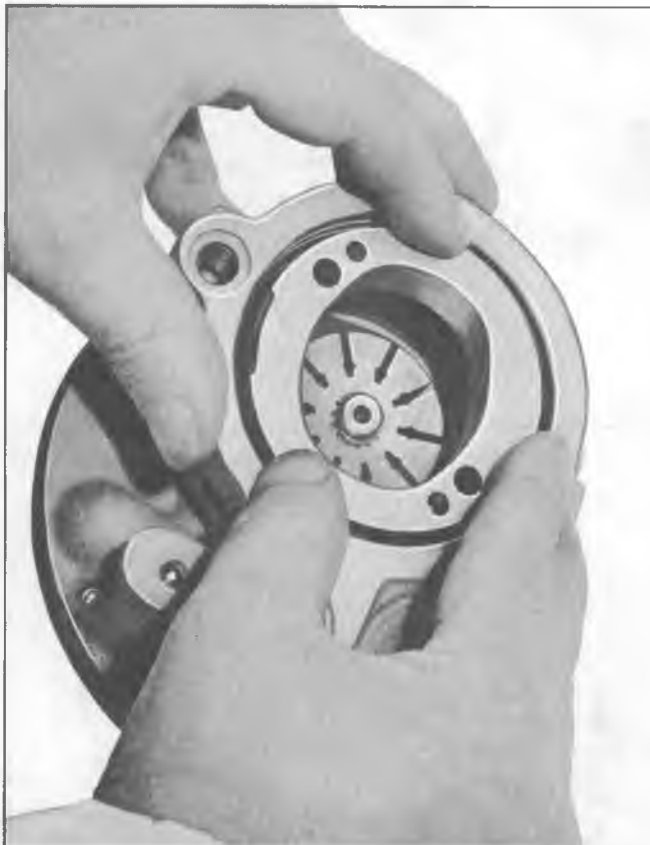

Fig. 30—Installing Pump Ring
5. Install pump ring on dowel pins with direction of rotation arrow to the rear of the pump housing (fig. 30). Rotation is clockwise as viewed from pulley.